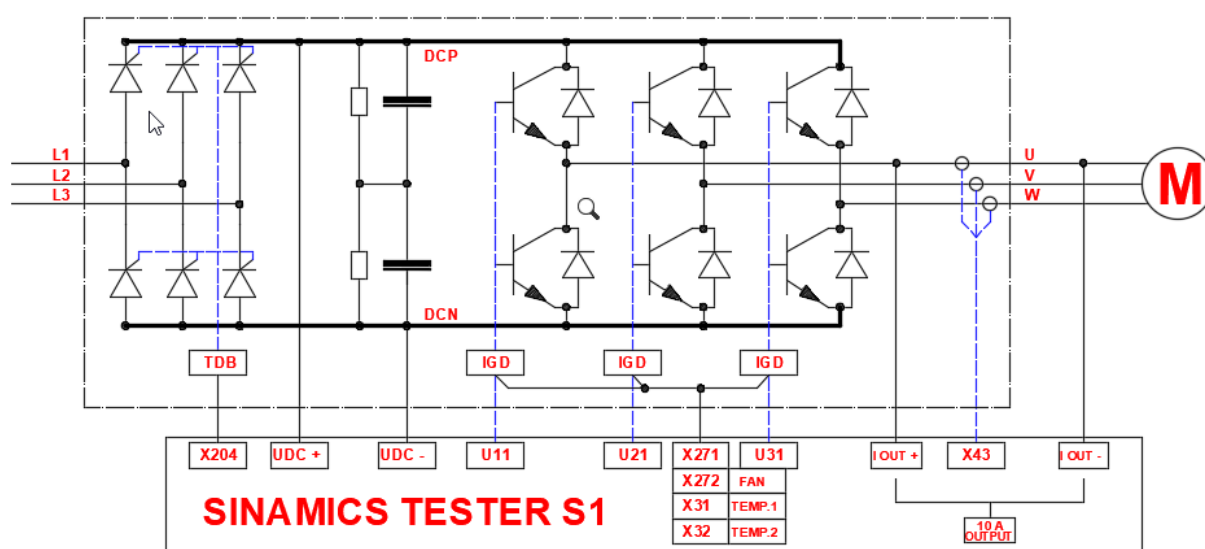

Figure8 - Block diagram of the Tester in current transformer test mode
The wiring diagram in Figure 8 is the wiring in the case of the current transformer test. This test is necessary to determine the exact conversion of the current transformers and is recommended to be performed in at least one phase (the tester will then remember the conversion for all three phases). Figure 8 is illustrative and represents a measurement in phase U. For measurements in the remaining phases from the wiring must reconnect. The current source can only generate current for one phase.
I sensor	Current transformer test, the tester must be connected according to figure 8
- The wiring for current transformer measurements is as shown in Figure 8.